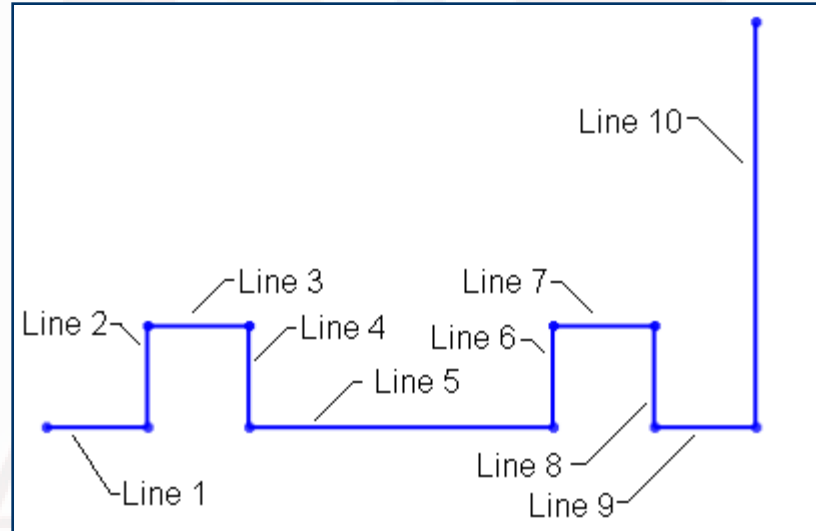

Figure 69 Partial outer loop of the sketch
3. Draw the sketch of the model using the **Line** and **Circle** tools, refer to **Figures 69** through **73**.